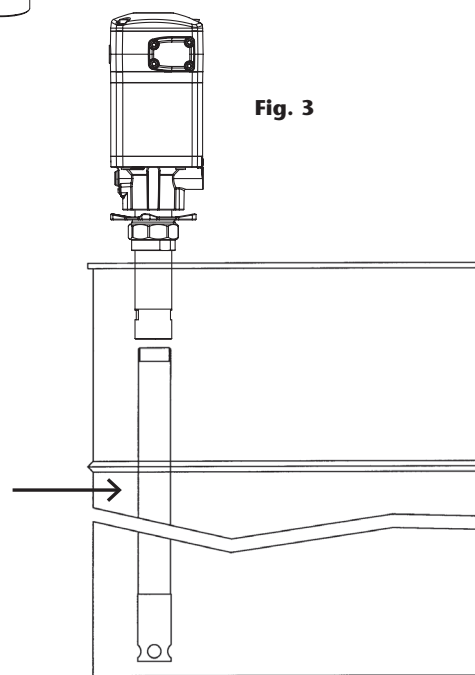

Fig. 3
- Adjustable drum or tank mounting, using bung adapter 360001. Screw the proper suction tube (see fig. 3) to the foot valve of the pump. Screw the nut of the bung adapter to the 2" opening of the cover. Insert the suction tube through the nut and secure it with the star nut at the desired height.